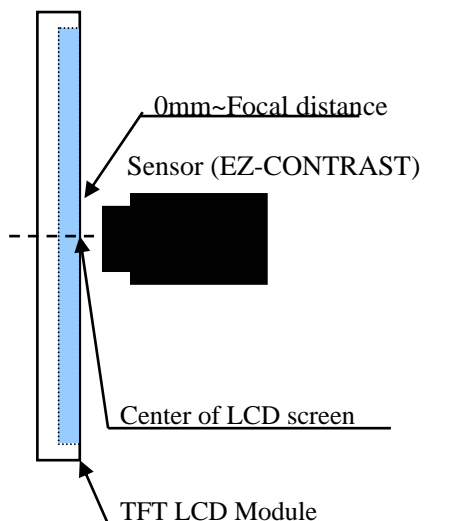

Fig.9-1 Measuring setup for
* The optical characteristics measurements are operated under a stable luminescence (I_{LED} = 20mA) and a dark condition. (Refer to Fig.9-1 and Fig.9-2)